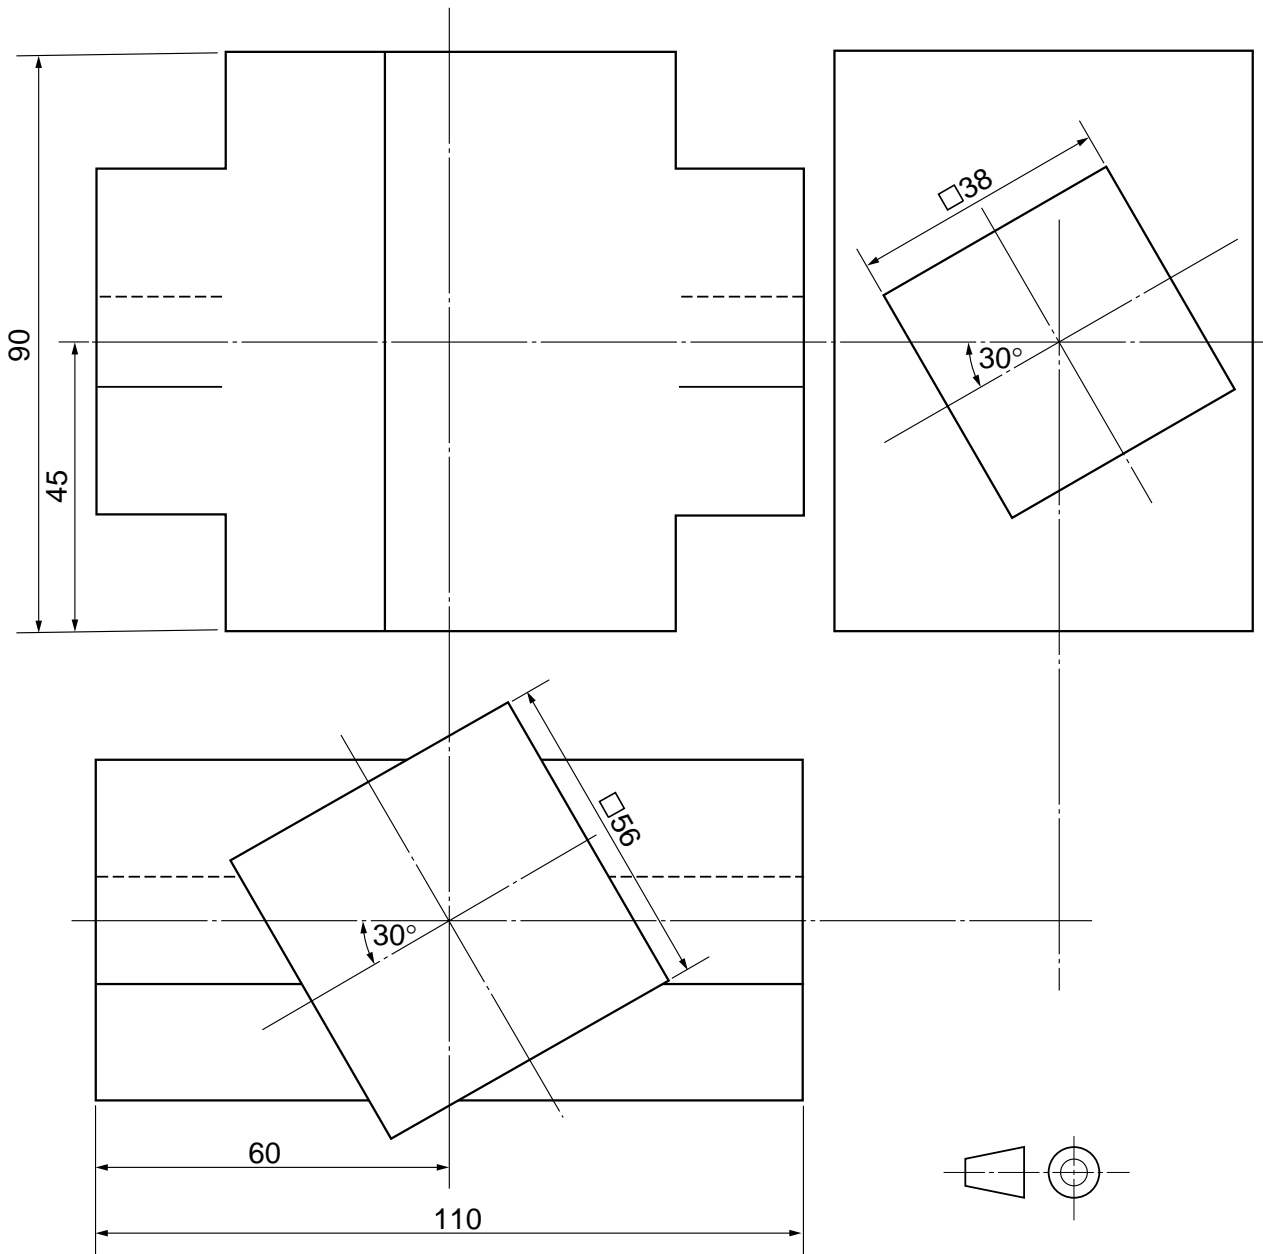

Fig. 6
- 7 Fig. 6 shows the plan and incomplete elevational views of two intersecting square prisms whose axes are perpendicular to each other.